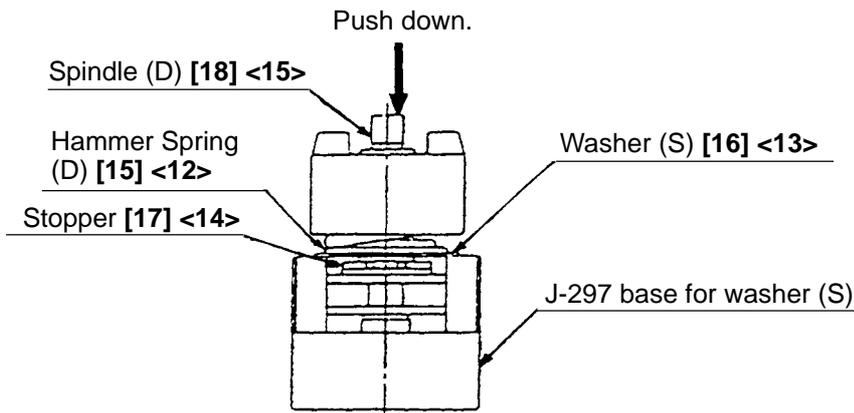

Fig. 2
Mount the hammer assembly onto the J-297 base for washer (S). With a hand press, push down the top of Spindle (D) [18] <15> to compress Hammer Spring (D) [15] <12>. In this position, remove the Stopper [17] <14> with a small flat-blade screwdriver, then release the hand press. (See Fig. 2.)